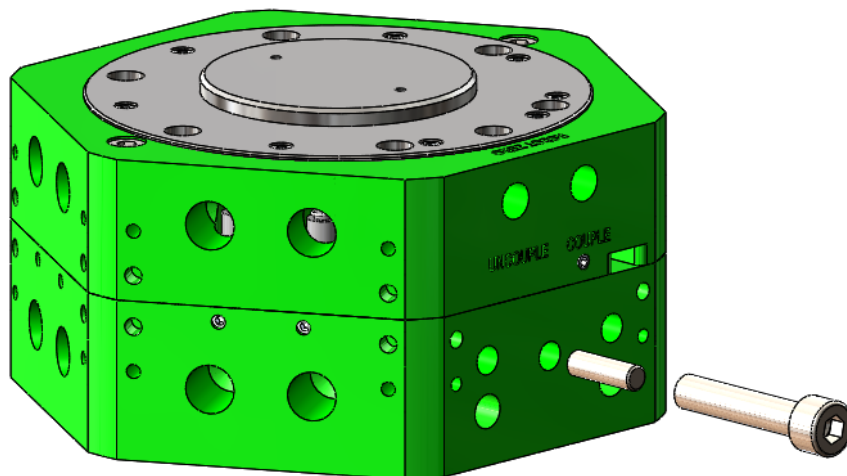

Figure 7.4-1. Manual Uncouple Feature
3. Insert a 6mm OD x 20mm long shaft followed by a M8x40mm long socket head cap screw in the hole located in the middle Position 1 of the Tool Side Housing as shown in Figure 7.4-1. This requires any tool side modules on Positions 1 to be removed.